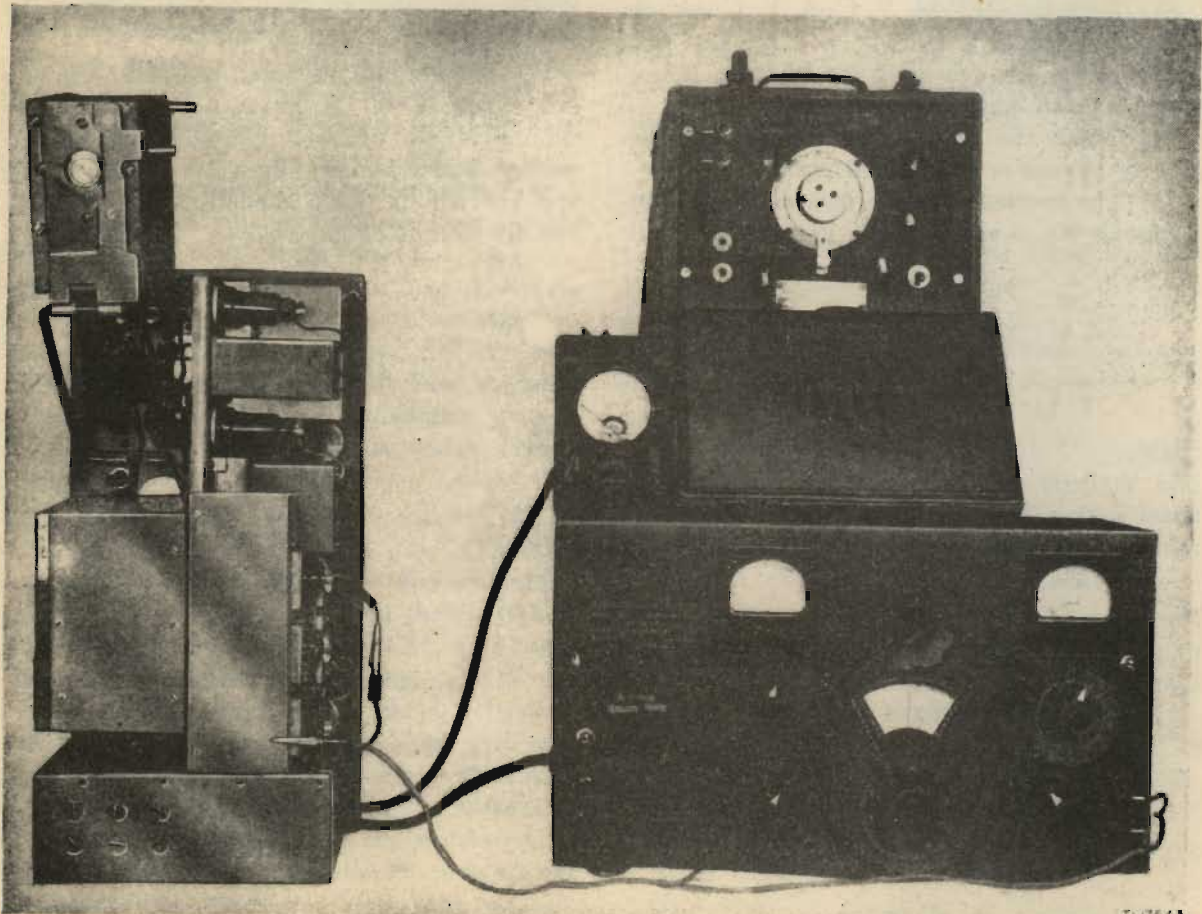
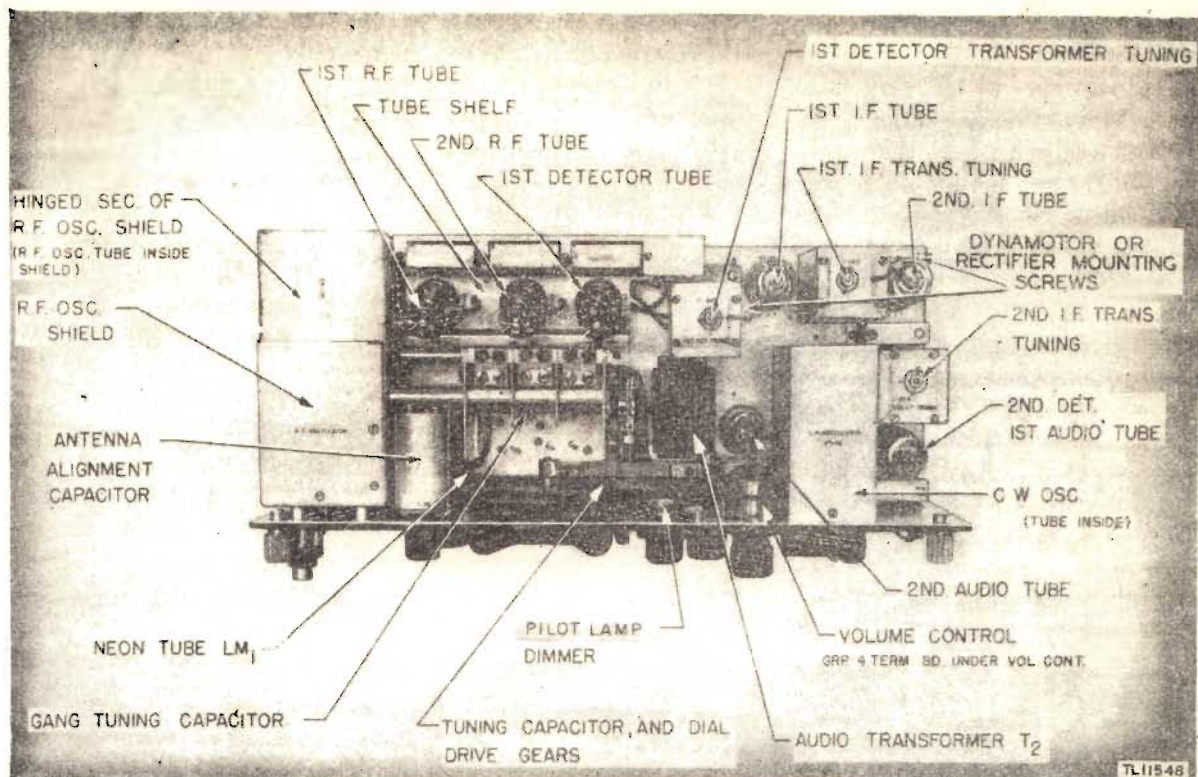
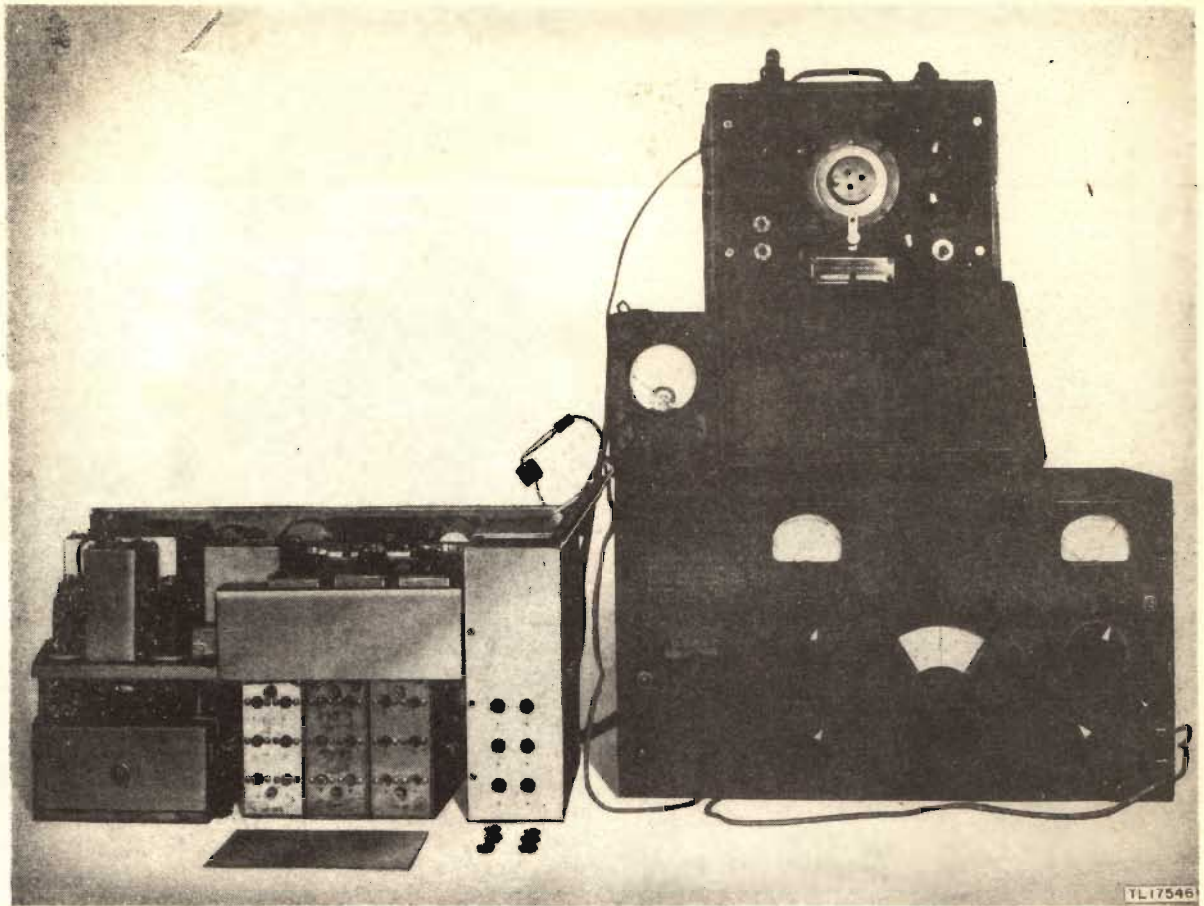

Figure 12. Radio Receiver BC-312-(*), or BC-342-(*), typical set-up for i-f alignment.
Figure 13. Receiver chassis, top view.
Figure 15. R-f oscillator alignment, typical set-up.
a. GENERAL. The rectifier can be tested and repaired without removing it from the receiver. Remove the two screws from the top of the chassis (fig. 13). Turn the receiver chassis up and down and remove the screw pin from the inner mounting hinge. Swing the rectifier assembly away from the panel. Discon-
a. PREPARATION. Set up the receiver and alignment equipment (fig. 12). Calibrate the signal generator for a 470-ke signal (par. 16). Remove from the top of the chassis the two screws which hold the power supply stationary (fig. 13). Remove the screw from the dynamotor or rectifier inner mounting hinge and swing the power supply upward, securing it in position with a rack or block of wood. Set the OFF-M. V. C.-A. V. C. switch to M. V. C., the CRYSTAL PHASING control to OUT, the C. W.-OSC. switch to OFF, and the VOL. control to maximum. Loosen the i-f transformer screw locknuts.
(1) Attach the signal generator ground lead to the receiver chassis and connect the dummy antenna (300-ohm resistor) between the grid cap of the second i-f amplifier tube and the output lead from the signal generator.
(2) Connect the output meter to the PHONES 2d AUDIO jack, and adjust the signal generator attenuator to give a small deflection on the output meter, using the smallest scale possible.
(3) Adjust the second i-f transformer adjustment screws (figs. 13 and 14) located on the top and bottom of the transformer for maximum output indication.
(4) Reduce the signal generator output whenever necessary during alignment to avoid overloading the receiver.
(5) Move the dummy antenna to the grid cap of the first i-f amplifier tube; adjust the first i-f transformer adjustment screws for maximum output indication.
(6) Connect the dummy antenna to the grid cap of the first detector tube; adjust the first detector transformer adjustment screws for maximum output indication.
(7) Leaving the dummy antenna connected to the first detector tube, readjust the second i-f, first i-f, and first detector transformer adjustment screws, in the order named, for maximum output.
(8) Carefully tighten the adjustment screw locknuts, avoiding any change in the settings of the screws. A change in the deflection of the output meter while a locknut is being tightened indicates that the adjustment screw has been moved and must be readjusted.
b. PREPARATION. Set up the receiver and alignment equipment as shown in figure 15. Calibrate the signal generator for a 2,900-kc
a. PREPARATION. Set up the equipment (fig. 12). Calibrate the signal generator to 470 kc (par. 16). Set the OFF-M. V. C.-A. V. C. switch to M. V. C. or A. V. C. and the C. W.-OSC. switch to ON. Turn the CW-OSC ADJUST control so that the arrow is horizontal, pointing to the right. Remove the cap screw above the C. W.-OSC. switch, permitting access to the c-w oscillator adjustment screw. Connect a headset or speaker to the receiver.
a. PREPARATION. Set up the equipment (fig. 12). Calibrate the signal generator to 470 kc (par. 16). Set the OFF-M. V. C.-A. V. C. switch to M. V. C. and the C. W.-OSC. switch to ON. Connect a headset or speaker and the output meter to the receiver.
(1) Connect the dummy antenna (300-ohm resistor) between the grid cap of the first detector tube and the output lead of the signal generator. Connect the ground lead of the signal generator to the chassis.
(2) Feed an unmodulated 470-kc signal into the receiver; rotate the CW-OSC ADJUST control until a sharp, shrill note is heard.
(3) Turn the CRYSTAL PHASING control counterclockwise (away from OUT) until a minimum or null signal response is heard. If the signal is too weak to be heard, advance the signal generator gain control until the signal is audible.
(4) Determine the operation frequency of the crystal by careful varying of the signal generator frequency slightly above and below 470 kc until a sharp increase in deflection is noted on the output meter and the volume increases noticeably in the headset or speaker. (During this procedure, it may be necessary to change the setting of the CW-OSC ADJUST control to maintain the shrill note.)
(5) Leave the signal generator set at the operation frequency of the crystal, turn the c-w oscillator off, and turn the signal generator modulation on. Repeat the i-f and first detector transformers for maximum output (par. 17). Also, realign the c-w oscillator at this new frequency (par. 20).
(6) To obtain maximum sensitivity from the receiver, it may be necessary to touch up the r-f oscillator-alignment adjustment screws, after the alignment of the crystal filter and realignment of the i-f stages.